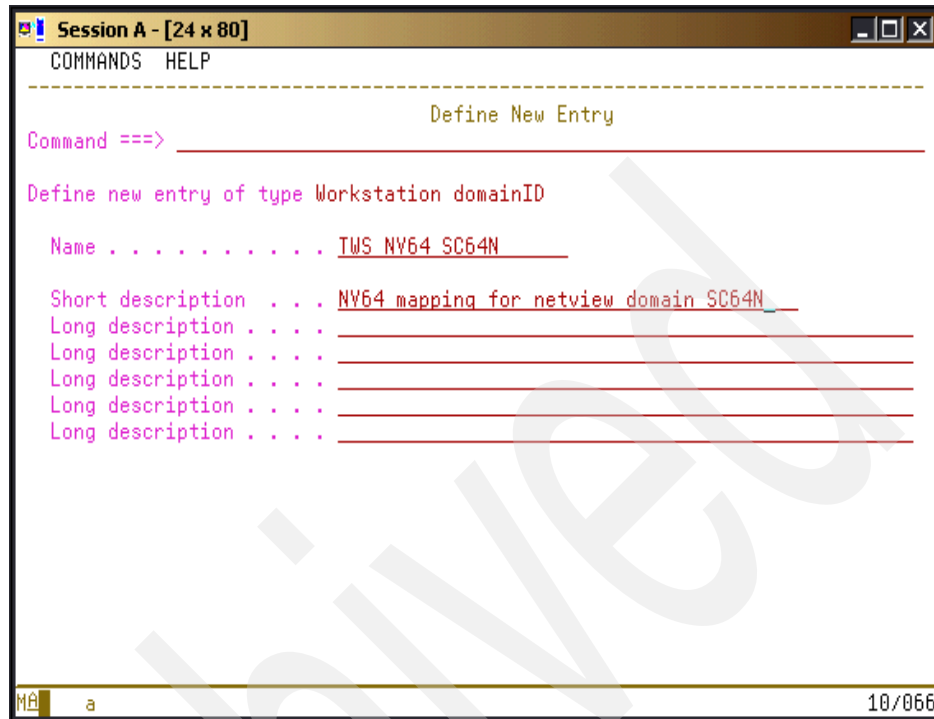

Figure 4-66 Workstation domainID Create New Entry panel
2. Type **new** on the command line and press Enter. The Define New Entry panel that is shown in Figure 4-66 on page 173 displays.